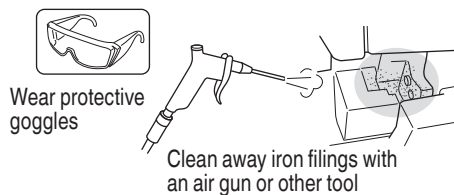

Fig. 38
- (2) Clean away the iron filings attached around the cutter installation area (Fig. 38)